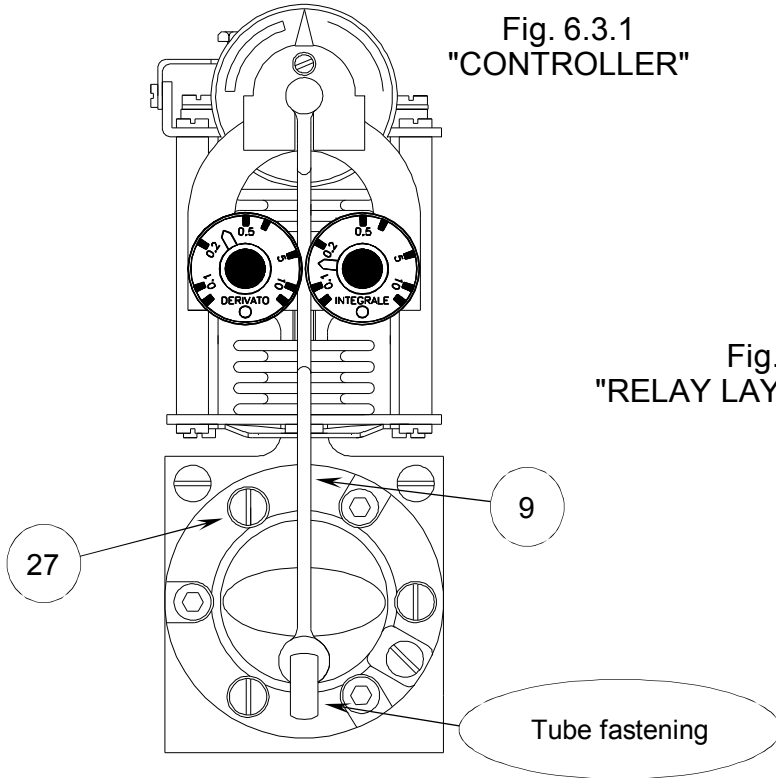

Fig. 6.3.2
If there is any oil and condensate in the air supply, clean the diaphragms (31) and (35) and the other inside elements of the relay (see Fig. 6.3.2). Disassemble the relay as follows:
- 4) Remove the three Allen screws (28) and disassemble the relay (see Fig. 6.3.2). Clean or replace the diaphragms.
- 5) Assemble the relay. Follow the layout drawing shown in Fig. 6.3.2.
Set relay diaphragms	(31) and (35) Fig. 6.3.2